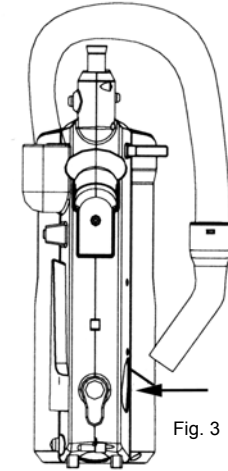

Fig. 3
- Insert the hose into the hose connector (Fig. 3).